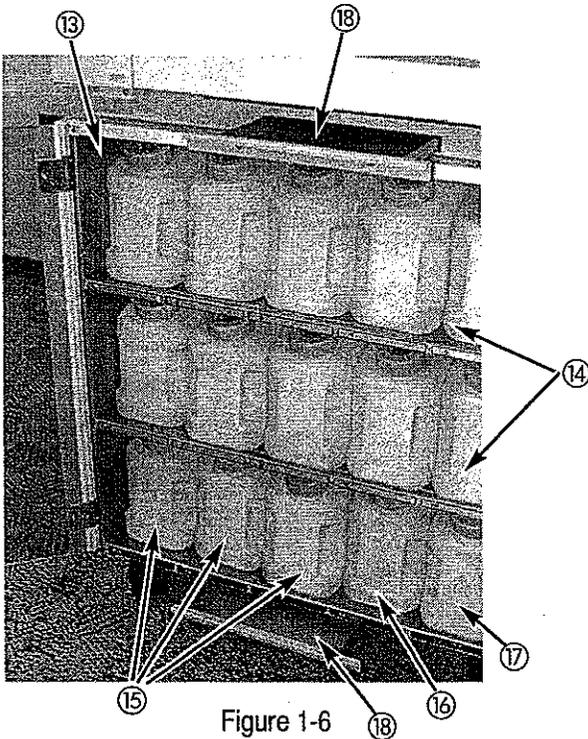

Figure 1-6
**Reagent Cabinet** (Figure 1-6)